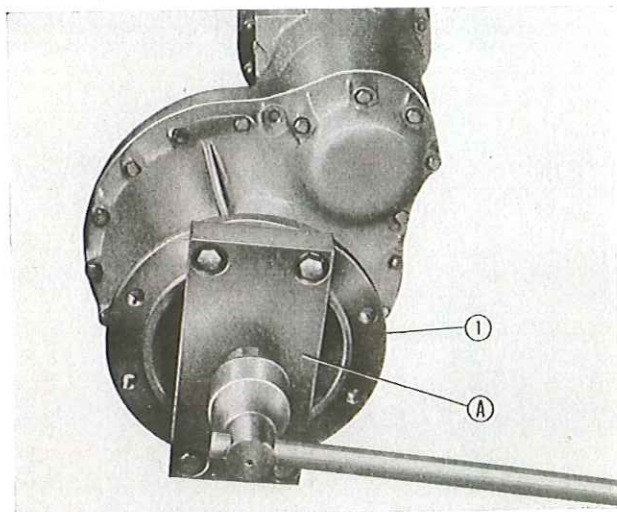

Fig. 85. - Withdrawal of the drive wheel shaft hub.
- *Drive wheel shaft hub*: remove weights, if any, then raise the rear section of the tractor placing the transmission housing on suitable floor stands; lock the brakes, hook the wheel to a hoist, withdraw the screws fastening the wheels to the discs, then lift up and remove the wheels; pull the cotter pin off the drive wheel shaft nut, then loosen and remove the nut itself; pull off the drive wheel hub using puller **A 487019** (Fig. 85).